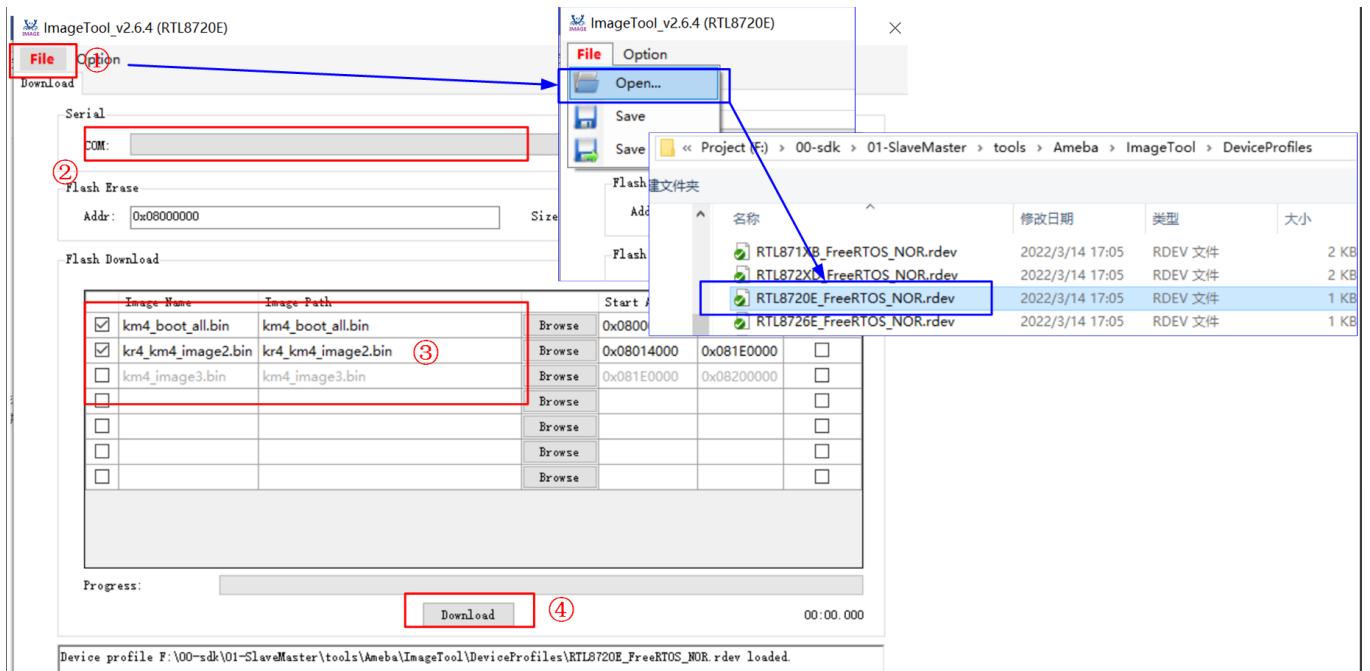

Figure 4-5 ImageTool UI
- (1) Connect the EVB to PC through the USB cable, power on the chip.
- (2) Keep pressing the UART download button, press and release the CHIP_EN button to enter into Flash download mode.
- (3) Select the corresponding serial port in the Image Tool provided by REALTEK.
- (4) Click Chip Select (in red) menu of Image Tool and select RTL8720E_FreeRTOS_NOR.rdev configuration file.
- (5) Set the transmission baud rate, and 1.5Mbps is recommended.
- (6) Select the storage directory of the compiled program and set the address of each image according to Figure 4-5.
- (7) Click the download button to start downloading the image.